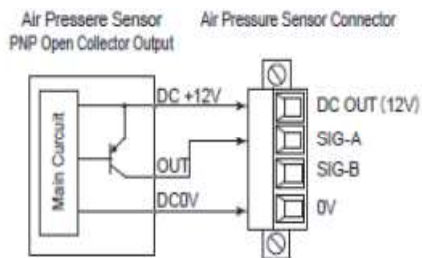

Fig. 23
- (4) Insert the Lead Wire to the Connector for Air Pressure Sensor. Refer to Fig. 23, 24.